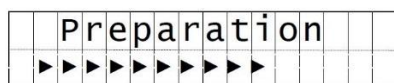

Fig.11
- During water filling process is displayed “Preparation”. (Fig.11)